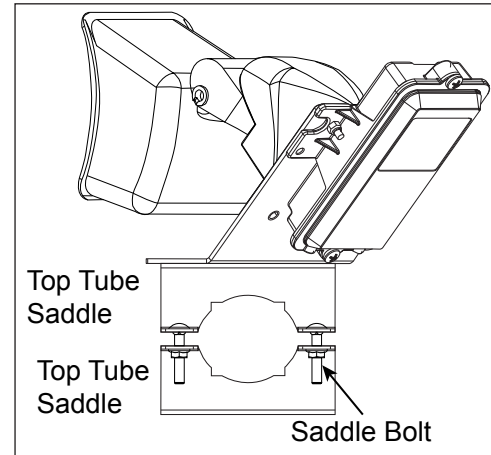

Figure 22: Mobotix Webcam Mounting
5. Slide the webcam arm between the top and bottom tube saddles until the webcam assembly is two inches from the end of the webcam arm. Refer to **Figure 22**.